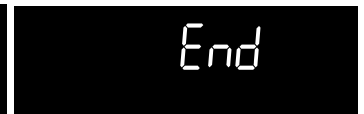

Fig. 2
1. "**END**" will appear in the display window and the oven will shut-off automatically (See Fig. 2).